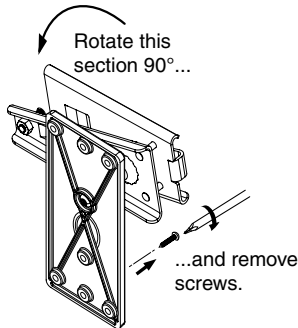

Figure 4 — Remove the old V-Lock Assembly
4. Rotate the stage (V-lock groove) 90 degrees to the wall plate (see figure 4), to access the screws in the wall plate.
6. Remove a new V-Lock assembly from its box, loosen the hex cap screw and rotate the front section approximately 90 degrees to the mounting plate (see figure 4). Lightly tighten the hex cap screw to temporarily lock it in position, allowing access to the mounting holes in the wall plate.